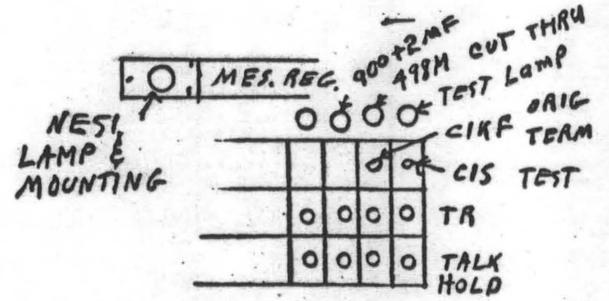

FIG 2
- b. Remove 2 coin key (RLS-CN) blanks or 2 coin keys not used. See Fig. 2. Install ORIGINATE-TERMINATE (CIKF) and TEST (CIS) Keys.
- d. Mount CUT THRU and 900 + 2 MF Keys and Test lamp socket per Figure 2.
- g. Remove T & R leads from Talk and Hold side of D & E resistors of Figure 2, SD-96063-011 and wire ORIG key in series with resistors. See Note 1 of Figure 1.